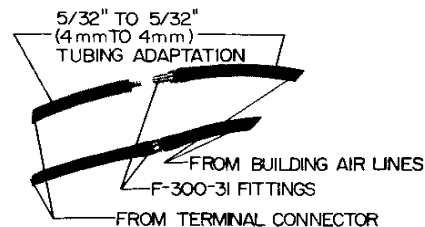

Fig. 7
- b. Where the converted installation used 1/4 in. or smaller, O.D. flexible tubing, the new instrument might be tubed directly onto the existing flexible tubing or adapted with appropriate fittings listed on page 7, see Fig. 7.